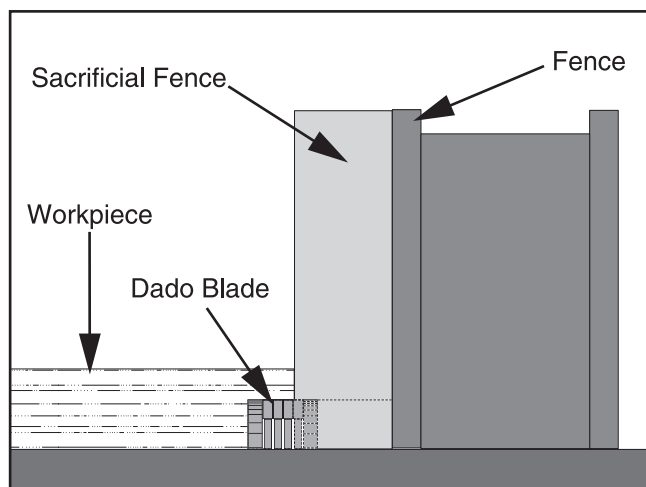

Figure 50. Rabet cutting.
7. Align the workpiece to perform the cutting operation, as shown in **Figure 50**.